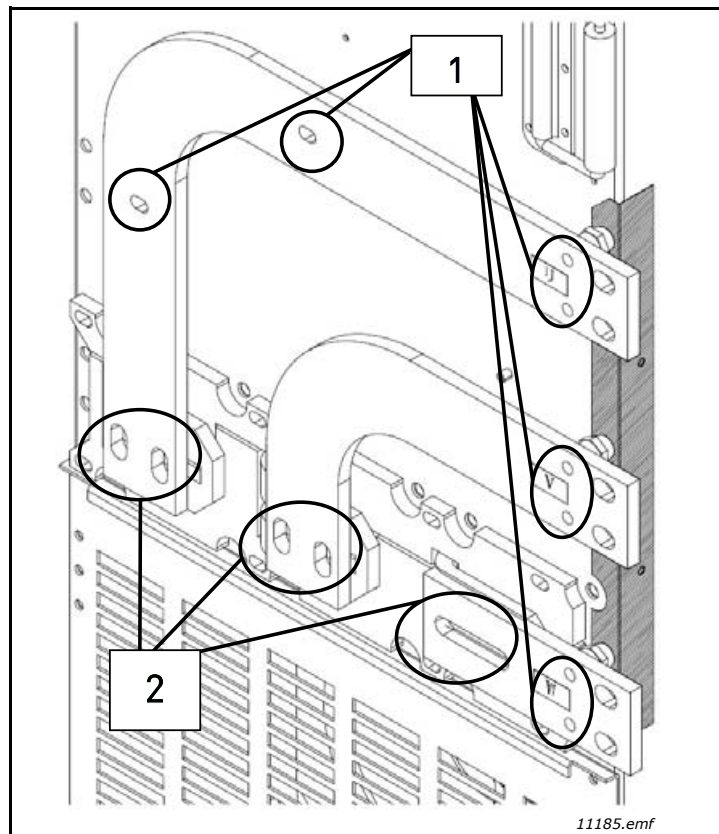

Figure 33. Right-side connection
1. Open fastenings numbered by 1 in Figure 33.
2. Open fastenings numbered by 2 in Figure 33.